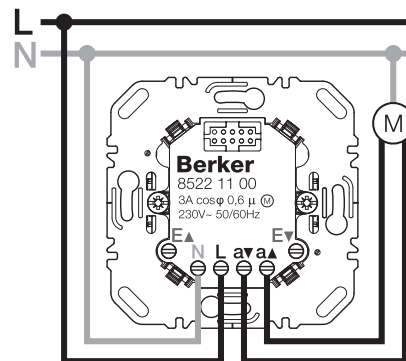

Figure 2: Shutter insert circuiting diagram
- Circuit shutter insert according to circuiting diagram (Figure 2)